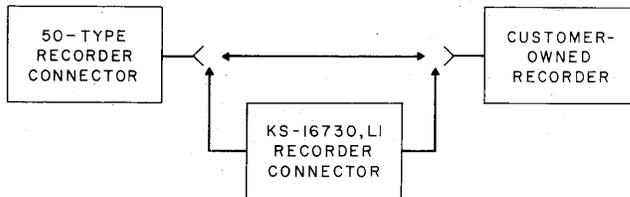

Fig. 3 - Block Diagram Showing Interconnection of Apparatus
- 2.04 When required, the KS-16730, List 1 unit is installed between the 50-type connector and the voice recorder as shown in Fig. 3.